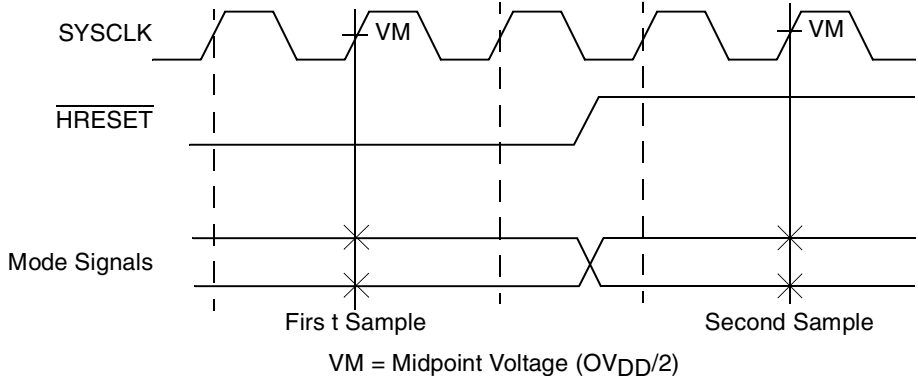

Figure 5. Mode Input Timing Diagram
Table 9 provides the processor bus AC timing specifications for the MPC7455 as defined in Figure 4 and Figure 5. Timing specifications for the L3 bus are provided in Section 5.2.3, “L3 Clock AC Specifications.”
- $\text{BMODE}[0:1]$  and  $\text{BVSEL}$  are mode select inputs and are sampled before and after  $\overline{\text{HRESET}}$  negation. These parameters represent the input setup and hold times for each sample. These values are guaranteed by design and not tested. These inputs must remain stable after the second sample. See Figure 5 for sample timing.
Figure 5 provides the mode select input timing diagram for the MPC7455.